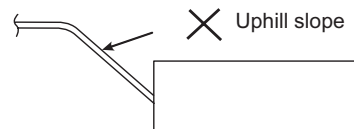

Fig. 2-49
- Do not install the pipe with an upward gradient from the connection port. This will cause the drain water to flow backward and leak when the unit is not operating. (Fig. 2-49)